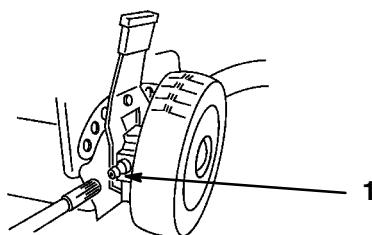

Figure 29
1. Wipe the grease fittings on the rear wheel height adjustment levers (Fig. 29) with a clean rag.